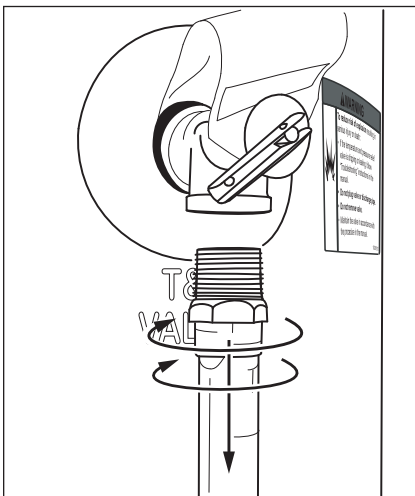

Figure 12 - Removing the T&P Relief Valve discharge pipe.
**10** When the tank is empty, disconnect the Temperature & Pressure (T&P) Relief Valve discharge pipe (Figure 12). You may be able to reuse the discharge pipe, but do not reuse the old T&P Relief Valve. A new T&P Relief Valve comes installed on your water heater (or on some models, is in the carton with the water heater).